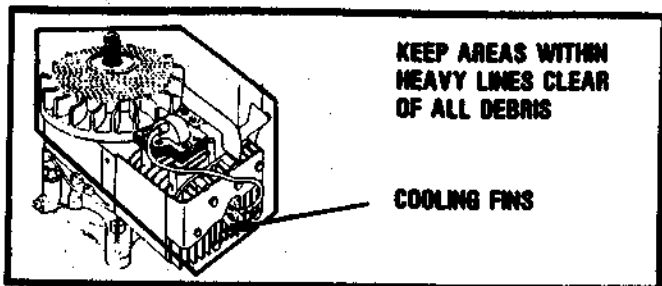

FIGURE 6
ENGINE COOLING SYSTEM — FIGURE 6
3. To avoid overheating and possible engine damage, periodically remove the shrouding from around the cooling fins, Figure 6, and clean the area shown within the heavy black line of all grass, dirt or chaff accumulation.